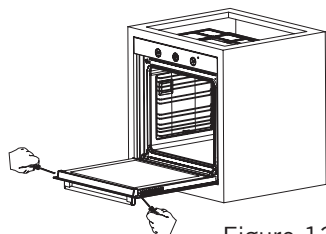
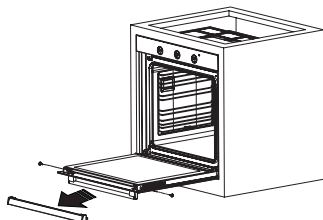

Figure 13
Figure 14
2. Remove the screws on the left and right sides as shown in Figure 13. Remove the profile by pulling it towards you as shown in Figure 14. Glass will be free after the profile is removed as shown in Figure 15. Carefully pull the glass that has become free toward you. If necessary, the middle glass can also be removed in the same way. The outer glass is fixed to the oven door profile. You may easily clean the glass once it has been released. Once the cleaning and maintenance is complete, you can replace the glasses and the profile by performing the removal procedure in reverse. Make sure that the glass is inserted in the correct direction and that the profile is seated properly.